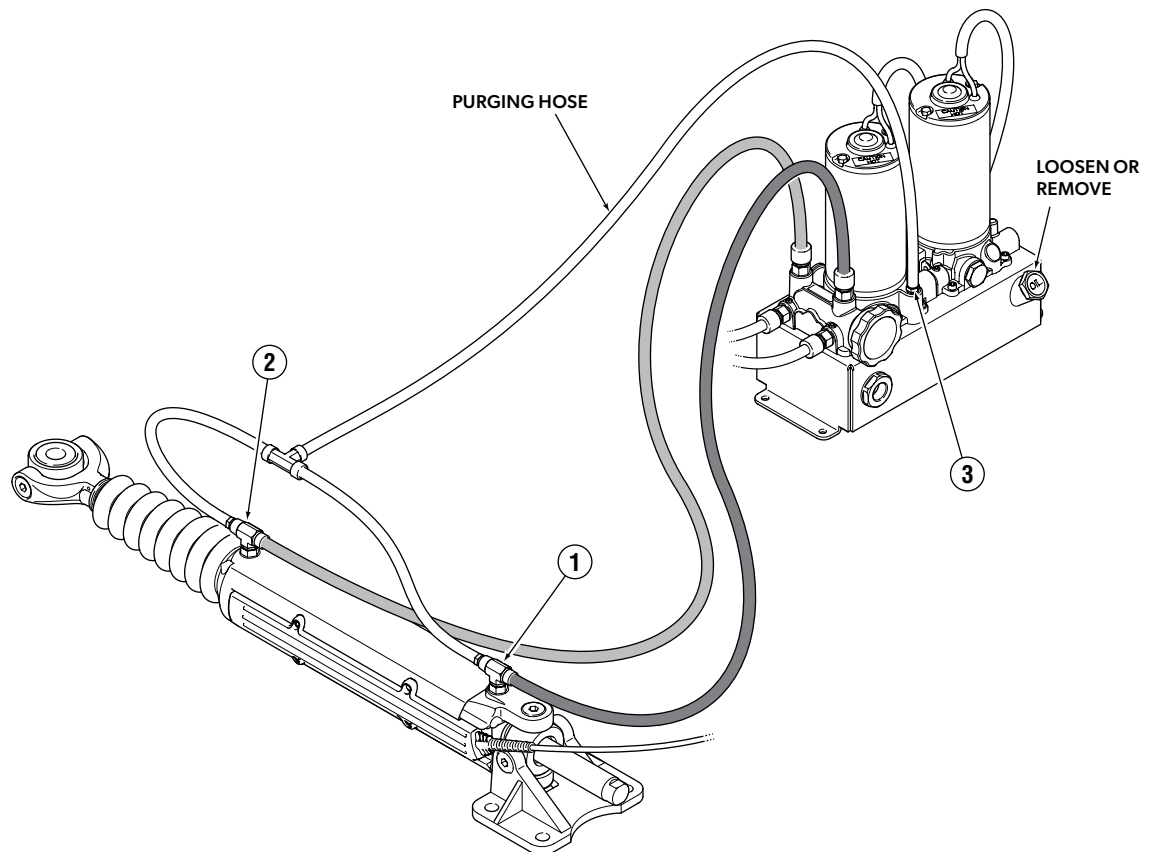

Figure 5.
1. Connect your purge hose to the starboard steering ram and tank as shown in figure 5. Open the tank bleed fitting (item 3 in figure 5) 1½ to 2 turns and loosen or remove the oil fill cap from the tank. Do not open the cylinder bleed fittings (items 1 and 2) yet.
5. Use the filler tube and a bottle of SeaStar Optimus EPS steering fluid to fill the helm. Make sure the filler tube always contains fluid during this procedure. (Refer to figure 5.)
7. If the steering shaft is extended, open bleed fitting #2 as shown in figure 5. If the steering shaft is retracted, open bleed fitting #1.